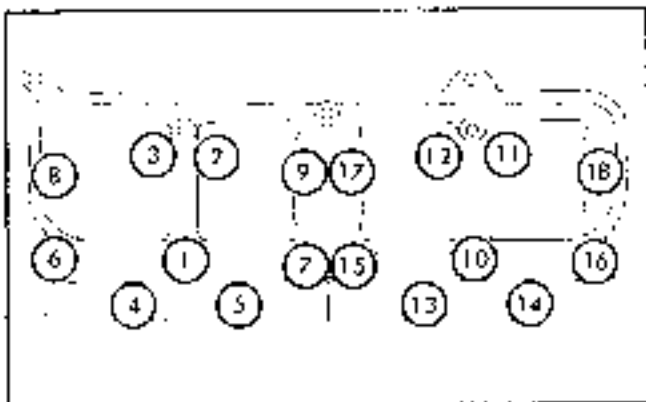

Fig. 1-34. Head Torque Sequence
1. Always use new gaskets when reinstalling the heads. The copper sheet side of the gasket should be toward the top of the engine. When rightening the head nuts, tighten the nuts at 25 foot-pounds intervals and in the sequence shown in figure 1-34. Tightening the nuts in this manner smooths out the gasket and squares the head on the block. The correct torque of the head nuts is 70 to 75 foot-pounds.